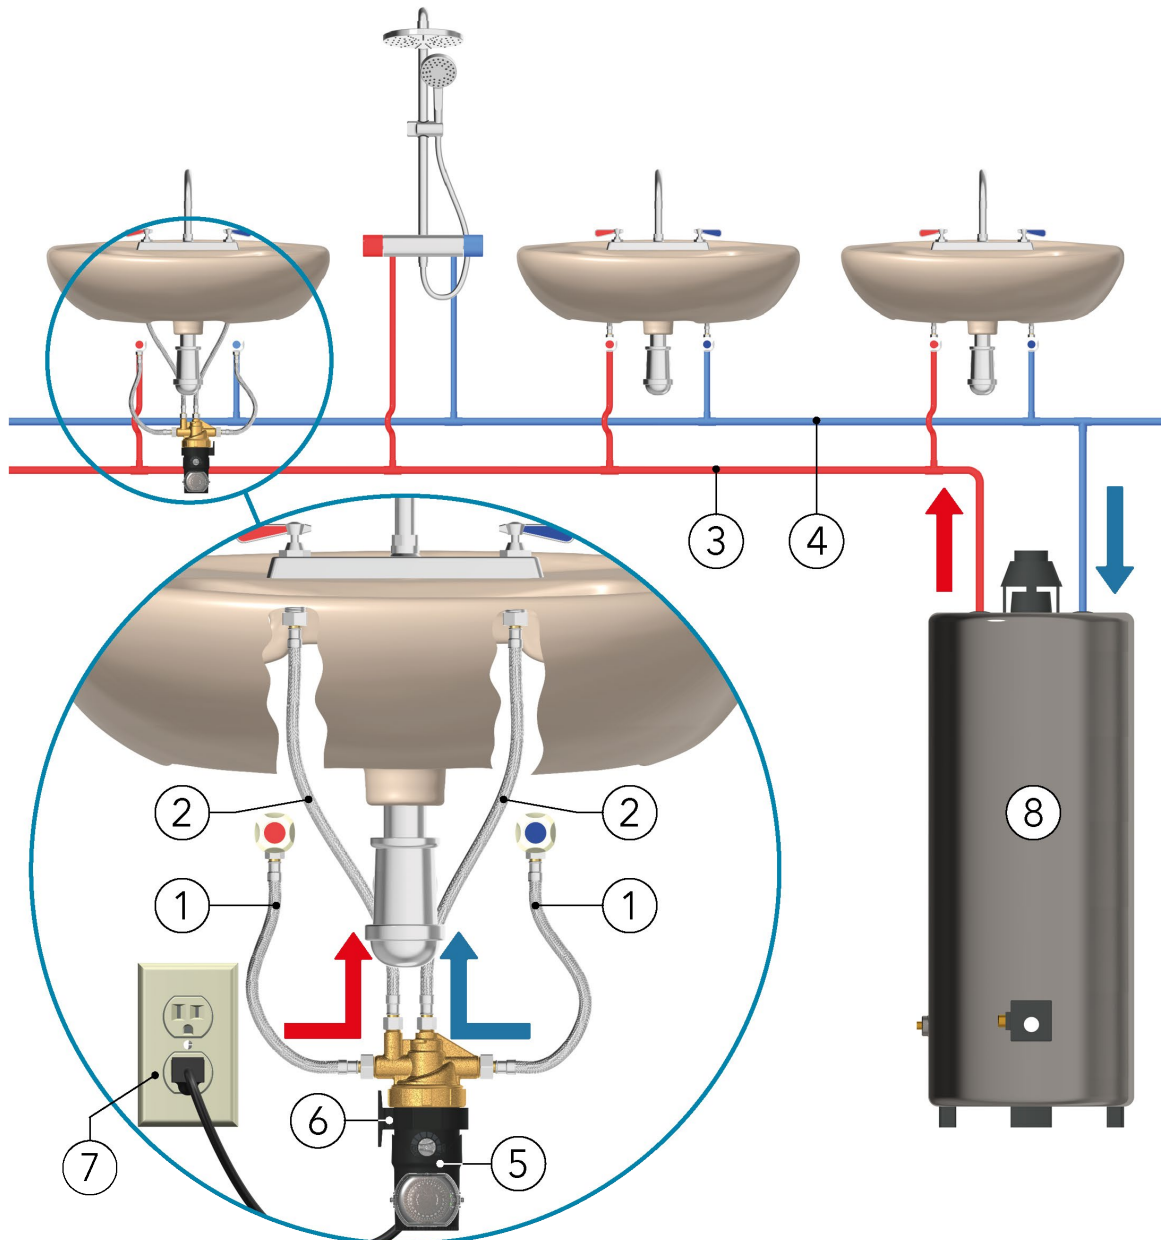

Figure 7
- Plan the installation position of the Autocirc pump on the wall under the sink, so that the existing flexible hoses can be reused and connected to the unit without kinking or straining (see **Figure 7** on page 21). The pump must be installed only in a vertical position as shown.